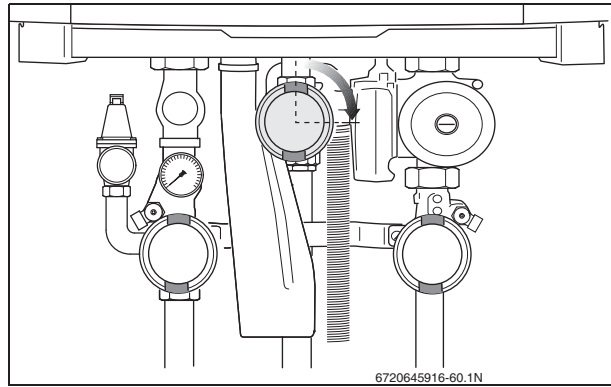

Fig. 60 Closing the gas valve
- Close the gas valve in a clockwise direction (fig. 60).